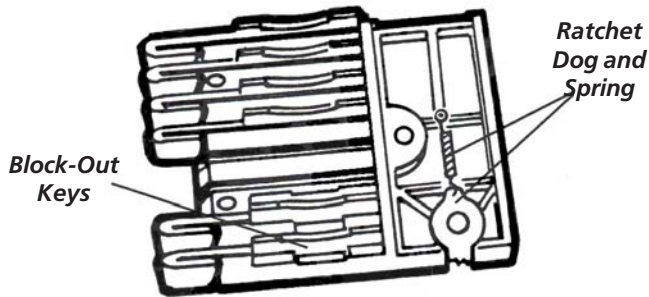

FIGURE 8
**NOTE:** Be sure block-out keys and /or dime inserts are seated properly and ratchet dog is in place with its spring connected (see FIGURE 8).